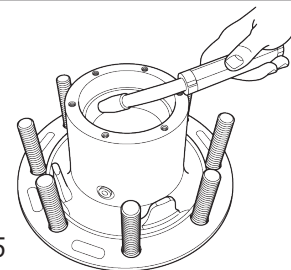

Figure 5
1. The bearing cup can be removed from an aluminum hub by welding a large bead around the bearing surface of the steel cup, letting the assembly cool, and removing the bearing cup (see Figure 5).